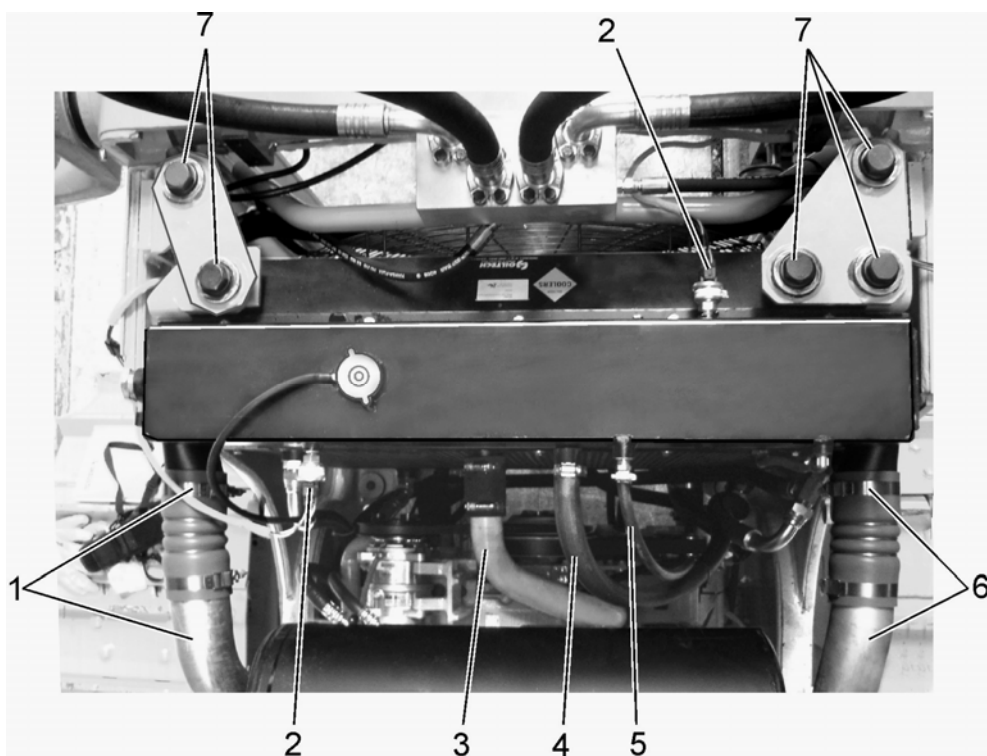

Fig. 6.3. Radiators Assy Connections (top view)
9. Disconnect wire harness connector from the coolant level switches (2, Fig. 6.3), and secure it to frame.
21. Unscrew bolts (7, Fig. 6.3) securing radiator assy to upper brackets.
2. Install bolts (7, Fig. 6.3) securing radiator assy to upper brackets. Tighten all bolts securing the radiator assy to the beam and brackets starting from bottom. Remove lifting slings.
8. Reinstall coolant tube (3, Fig. 6.3) between the radiator and engine outlet. Tighten the clamps.
9. Reinstall coolant fill hose (4) to the auxiliary tank. Tighten the clamp.
10. Reinstall engine vent hose (5) to the auxiliary tank. Tighten the clamp.
12. Reconnect wire harness connector to the coolant level switches (2).